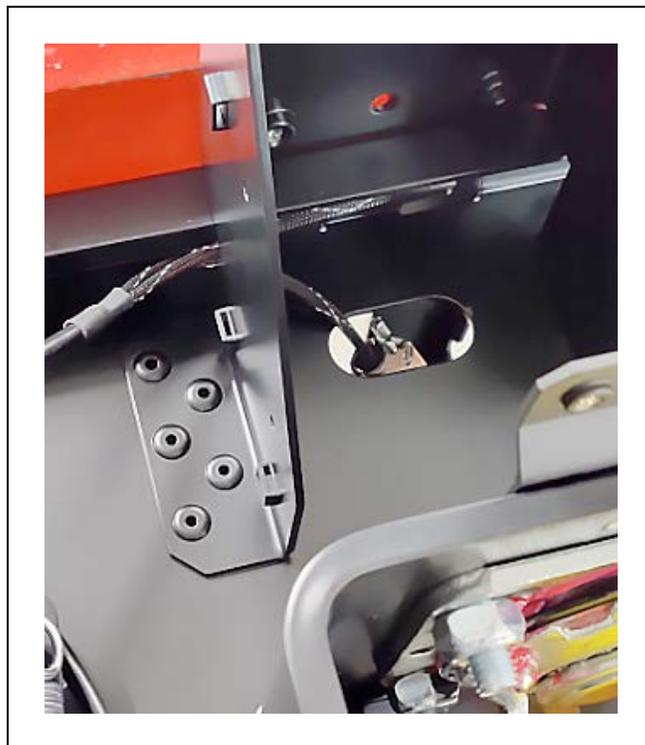

Figure 9-16 LD-250 Front HAPS Cable Routing Through the Chassis
4. Pass each RS232 connector (one at a time) through the oval hole in the side of the chassis as shown in Figure 9-16. Feed the cable through, leaving no slack.